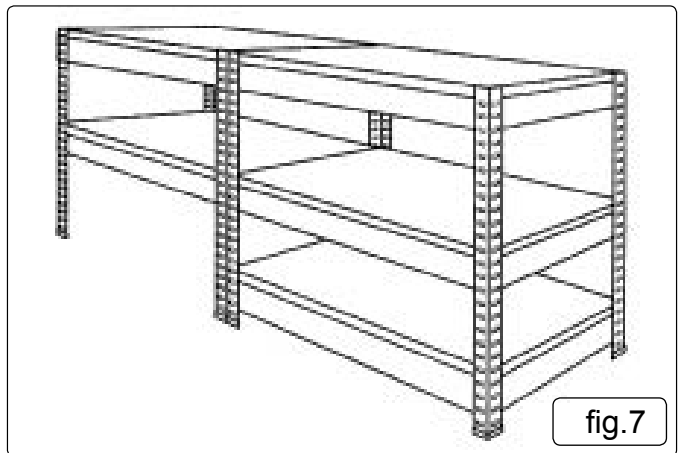

fig.7
- 5.8. See fig.7. To assemble as a bench/low level shelving unit make up two separate frames following steps 4.1 to 4.3 but with different shelving positions. Make up one frame with 3 shelves and one frame with two shelves as shown below. Ensure that the middle and top shelves on both frames are at the same height. Fix the frames together with the four nuts and bolts supplied. Place the 5 MDF shelves into position in the frames.